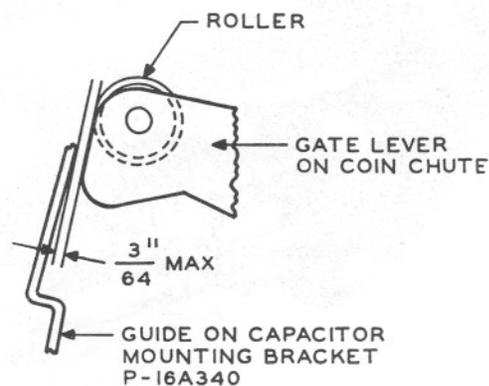

FIG. 1—CLEARANCE BETWEEN GUIDE AND GATE OPERATING ARM
- Capacitor mounting bracket shall be equipped with gate operating arm guide. End of guide shall clear gate lever by maximum $\frac{3}{64}$ inch as shown in Fig. 1. Guide reduces possibility of distorting gate operating arm when removing or reassembling upper housing.